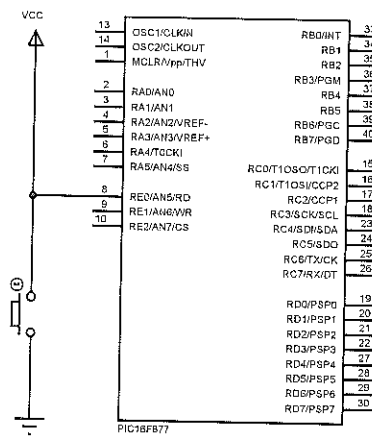

Figure 2: Push button switch connection
- ii. Another solution was suggested to interface the push button switch as shown in Fig. 2. Explain why this is not the correct way to interface the switch either. (2)